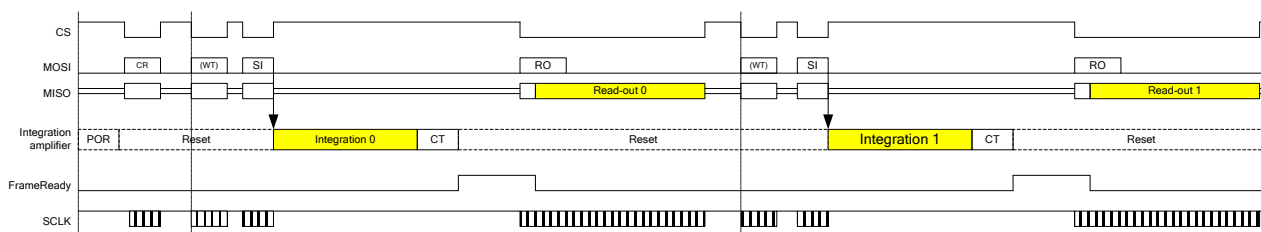

Figure 11: Global timing diagram
A global timing diagram is given in Figure 11. After power-up there is a Power-On-Reset phase (POR) to initialize the sensor in a reset state. The first command is a Chip Reset CR which is needed to fully initialize the device. The first integration cycle (Integration 0) is initiated by uploading a Start Integration SI command. After completion of the integration cycle, there is a minimum conversion time (CT) of a time t_f after which the *FrameReady* goes high. This indicates that the read-out cycle can be started. When the read-out is completed, a new integration cycle can be started.
The first integrate/read-out cycle after power-on/chip reset is considered as a dummy scan and as such, the data has to be disregarded ("Read-out 0" in Figure 11).